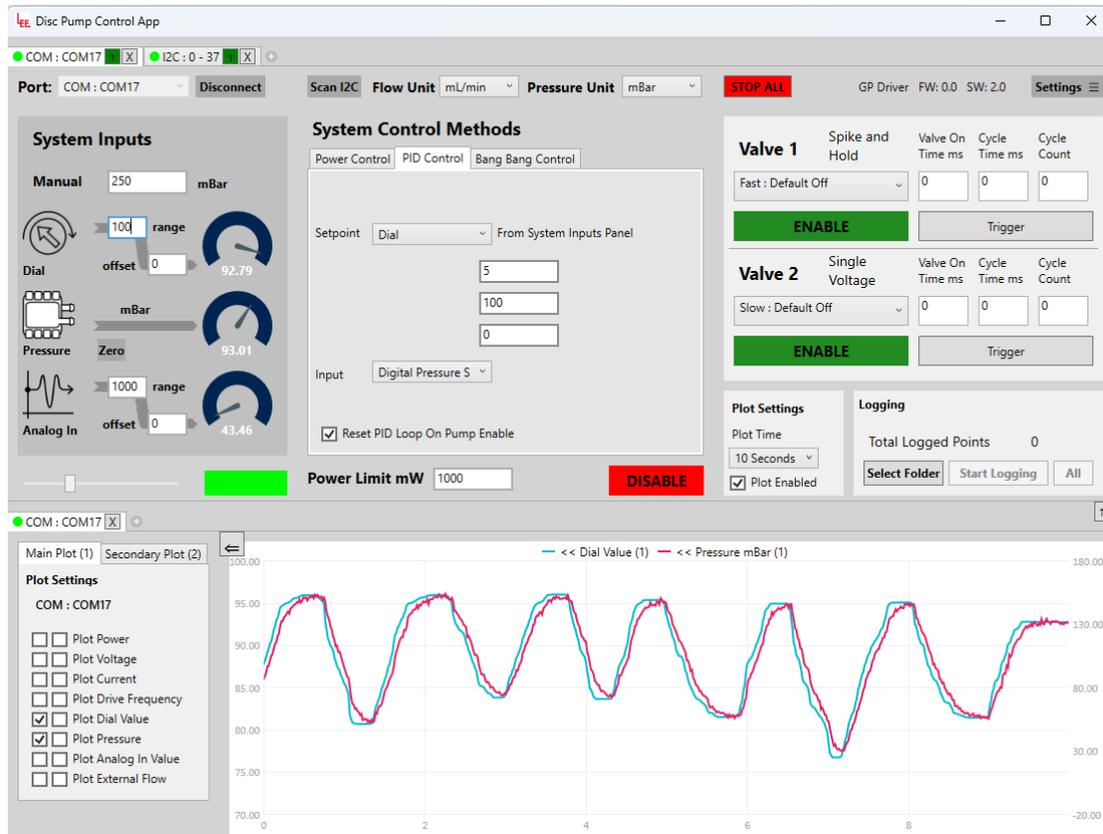

Figure 59. GUI showing PID control setup. Dial value shown in teal and pressure shown in red.
- In the second drop down box below the PID variables, select Digital Pressure Sensor. (This is the variable which is controlled by the PID loop to match the control input) as shown in Figure 59.
Figure 59 shows how the output pressure profile matches the setpoint dial value (our simulated analog input). The accuracy of the tracked pressure will depend on the PID settings as well as pressure and flow capability of the pump.